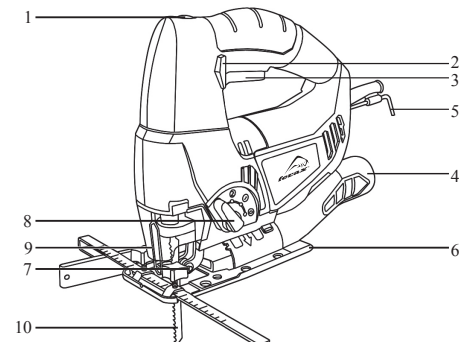

Fig. 1
4. PRODUKTINFORMATION (Fig. 1)